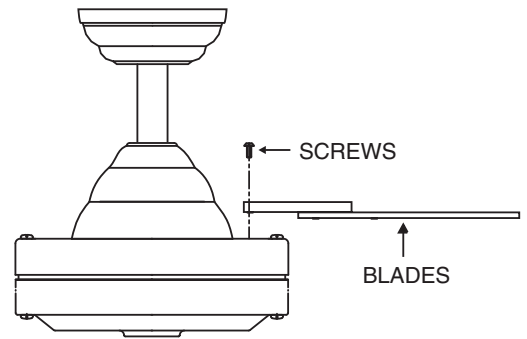

FIGURE 14
1. Fasten blade assembly to motor using the screws supplied. (Fig. 14)